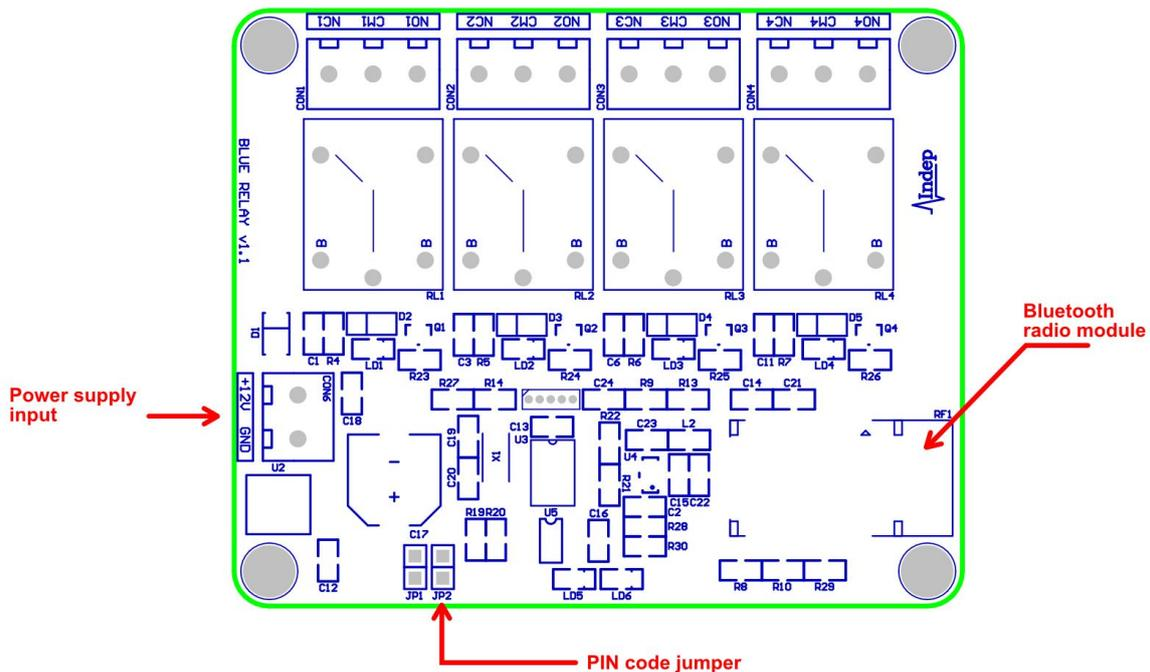

Fig.1 - BLUE RELAY Board layout.
2. Remove the jumper JP2: This jumper is placed close to the power supply terminals, see Fig.1.